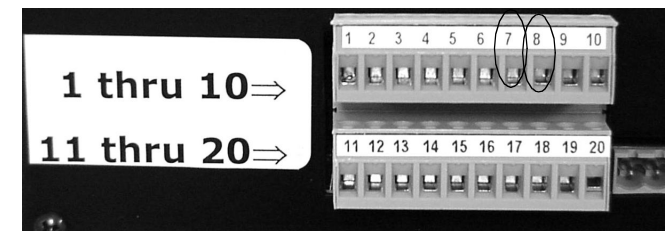

Figure 41. Low Voltage Sensing
1. Connect positive lead (5 - 30 volts AC/DC) to terminal #7 and ground of switching device to terminal #8 (see Figure 41). Unit extends when voltage is sensed, retracts when voltage ceases.